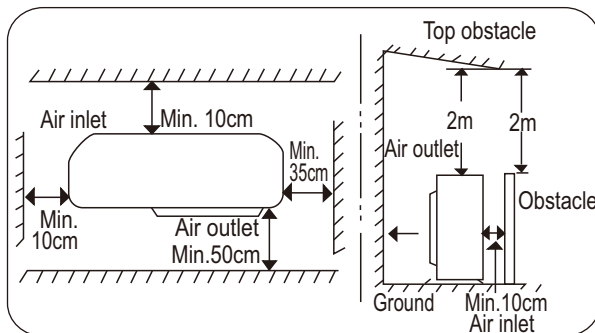

Fig. 8.1
- Have required space for air inlet, outlet and maintenance. (Fig 8.1)